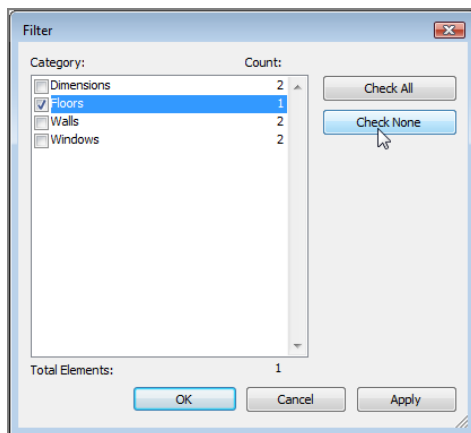

FIGURE 6.36: Deselect all the elements, and then select Floors.
4. In the Filter dialog box, click the Check None button, as shown in Figure 6.36.
5. Select the Floors option (see Figure 6.36), and click OK.